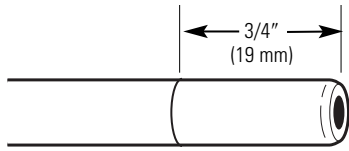

Fig. 6
1. Measure $\frac{3}{4}$ " from the end of each remaining piece of tubing (faucet end and inlet end) and mark with a pencil (Fig. 6). (Check for roundness, smoothness, cuts, nicks, flat spots and sharp edges. It may be necessary to recut the tubing.)